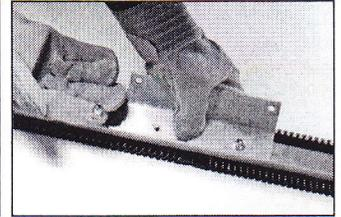

Fig 5
6. From the underside, insert 2 short bolts (D) in the 2 center holes of the steel serrated blade (A), up through the "L" shaped stiffener bar (B) and through the adapter plate (C) (figure 5).
7. Place loc nuts (E) on the bolts (D) and use 2 wrenches to tighten.